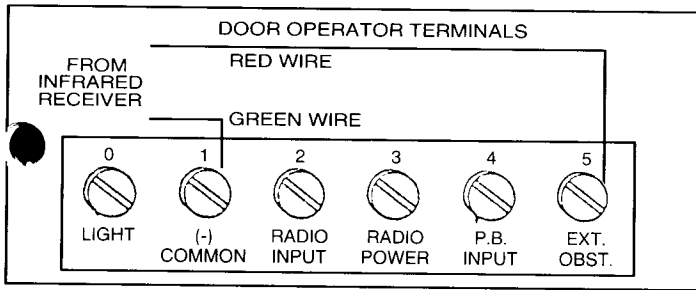

Figure 25
Step 47: Run the two-conductor "DoorSentry" wire from the detector up the side of the door opening and over to the channel. Run the wire across the top of the channel to the operator terminals marked "Common and Obstacle" - (see Figure 25). Attach the three (3) wire ties provided to each end and the center of the top side of the channel assembly. Slide wire into wire clip to hold wire away from any moving parts of channel or door.